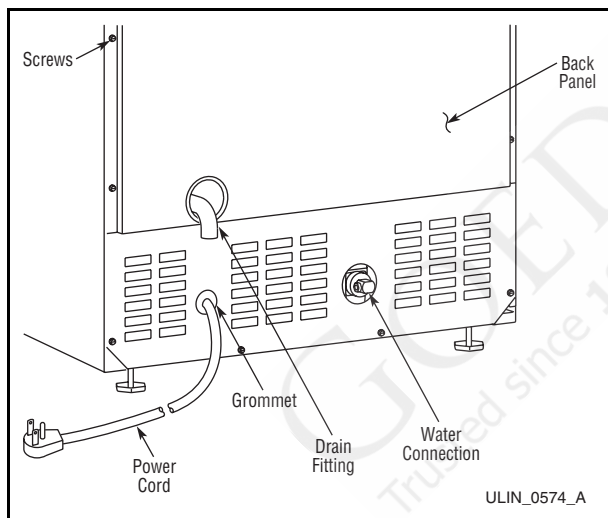

Figure 6
2. Carefully push the power cord grommet through the hole in the back panel (**Figure 6**, CLRCO2175 shown).